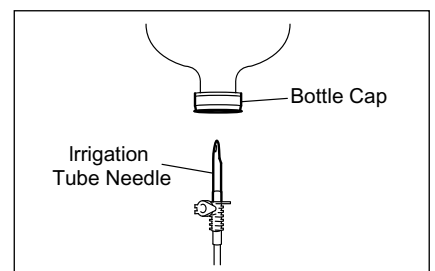

Fig.15
- (2) Insert the irrigation tube needle into the bottle cap. (Fig.15)